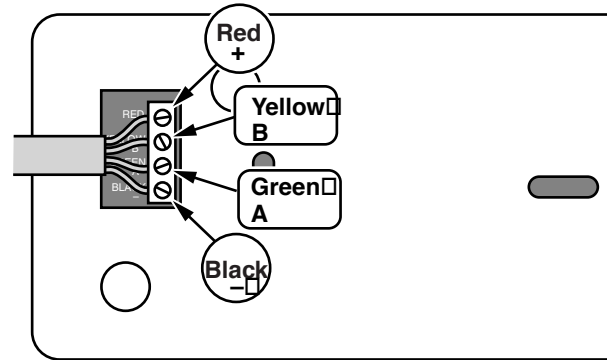

**Figure 2: Wiring Connection to Heater Control Board.**
5. Connect ordinary 4-wire telephone cable to the RS485 terminal on the control board as shown in Figure 2. BE SURE to match the color code/sequence as shown in Figure 2.